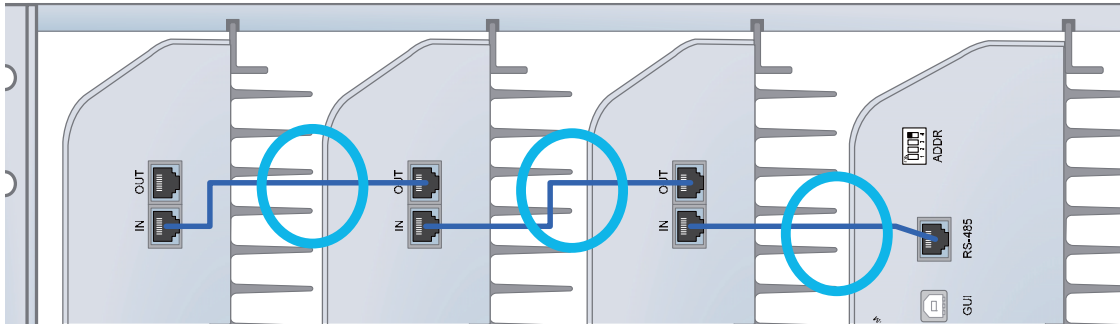

Figure 3-36 Correct RS-485 connection between Master RU and Slave RU or between Slave RUs
- The RS-485 cable connected to master RU should be connected to RS-485 IN port of slave RU. When a slave RU is connected to another slave RU, then the RS-485 cable should be connected from the RS-485 OUT port to the RS-485 IN of the 2nd Slave RU. (Figure 3-36)